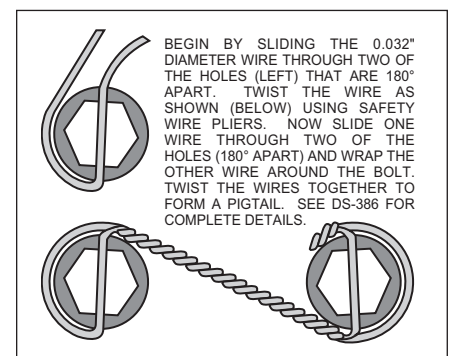

Figure 6. Safety Wire Diagram
- Align the correct hole pattern in the rotor (3) with the stud pattern on the axle flange. **NOTE:** Some OEM and after market axles come with stud sizes larger than 0.50” diameter. Verify stud size and have a qualified machine shop drill the bolt circle of the rotor to the correct stud size, if necessary. Slide the rotor (3) over the wheel studs covering the mounting bracket assembly (1) and against the axle flange face.
- NOTE:** Please reference the caution statement at the beginning of the assembly instructions. **WITH THE BLEED SCREWS POINTING UP,** mount the caliper (4) over the rotor (3) and onto the caliper mounting bracket (1) using lock washers (5) and mounting bolts (6). View the rotor through the top opening of the caliper. The rotor should be aligned in the center of the caliper. If not, adjust the caliper by using 0.032 inch shims (7) by placing them between the caliper mounting bracket (1) and the caliper (4). Apply red *Loctite*® 271 to the mounting bolt threads (6), torque to 30 ft-lb. Safety wire the caliper mounting bolts (6) using standard 0.032 inch diameter stainless steel safety wire as shown in Figure 6. Please refer to Wilwood’s data sheet DS-386 (available at www.wilwood.com/pdf/ds386.pdf) for complete safety wire installation instructions.
- Position the Wilwood disc brake pads (8) into the caliper (4) and fasten with cotter pin (9). Steel backing plate side of brake pad should face the caliper pistons.
- Before final installation of the wheel, install a couple of lug nuts and adjust the parking brake shoes outward (using a drum shoe adjustment tool available at your local auto parts store) while spinning the rotor/hat (3) until a slight drag is felt again the hat/drum.